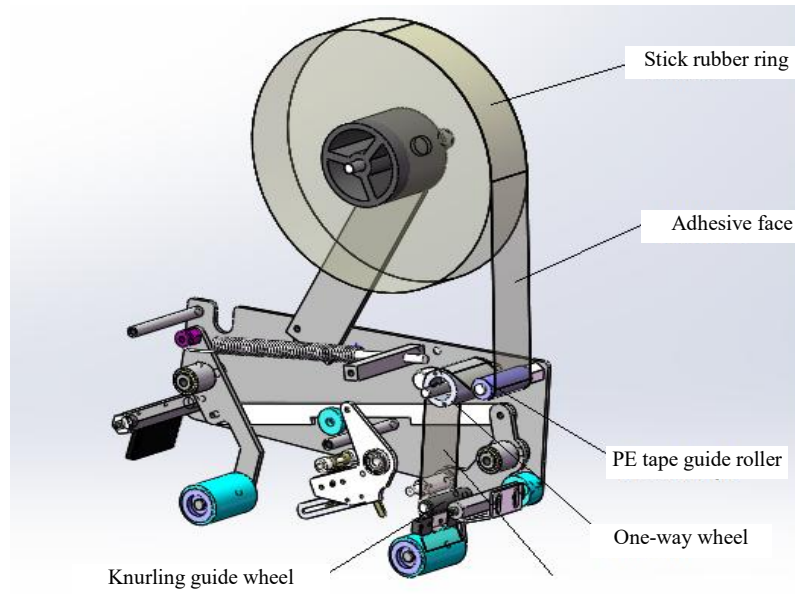

Figure 21
4.1 (See Figure 21), firstly, put the new OPP tape coil onto the central spindle, as shown in the figure; secondly, pull out the tape to bypass the knurling rotary sleeve and then bypass the axle sleeve along the line; thirdly, bypass the knurling rotary shaft, finally pass the tape through the black polyformaldehyde inner sleeve and go out, as shown in the figure below. During the whole process, attention shall be paid to that the adhesive face of the tape must be outward.